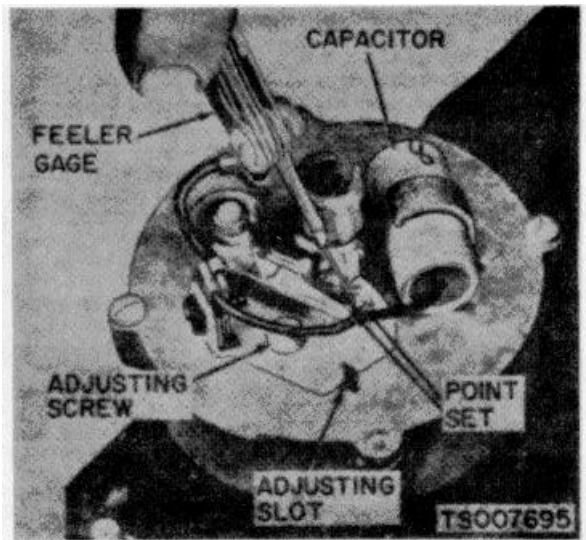

Figure 4-22. Checking Distributor Point Cap
high point of the cam (points open as far as possible). See figure 4-22.
(6) Install new contact set and capacitor in the same positions from which the old ones were removed.
(7) Using the starting motor to crank the engine, turn over the engine until the contact point cam follower is on the high point of the cam (points open as far as possible); refer to figure 4-22.
(8) Use a wire feeler gage as shown in figure 4-22 to check the point opening. If the point gap is not 0.022 inch, loosen the lock screw with a screwdriver and position the adjusting plate of the point set until the correct point opening is attained. Tighten the lock screw.
(9) Install rotor and install the distributor cap. Make sure all spark plug leads and the ignition coil high tension leads are firmly seated in the distributor cap.